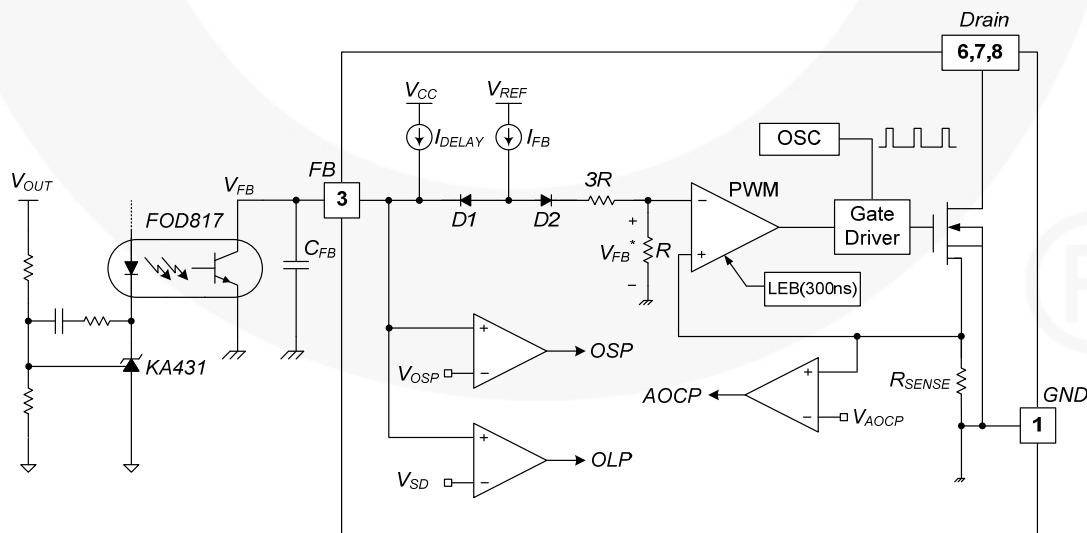

Figure 20. Pulse Width Modulation Circuit
3. Feedback Control: This device employs Current-Mode control, as shown in Figure 20. An opto-coupler (such as the FOD817) and shunt regulator (such as the KA431) are typically used to implement the feedback network. Comparing the feedback voltage with the voltage across the R_{SENSE} resistor makes it possible to control the switching duty cycle. When the reference pin voltage of the shunt regulator exceeds the internal reference voltage of 2.5V, the opto-coupler LED current increases, pulling down the feedback voltage and reducing drain current. This typically occurs when the input voltage is increased or the output load is decreased.
3.1 Pulse-by-Pulse Current Limit: Because Current-Mode control is employed, the peak current through the SenseFET is limited by the inverting input of PWM comparator (V_{FB}^*), as shown in Figure 20. Assuming that the $90\mu A$ current source flows only through the internal resistor ($3R + R = 25k\Omega$), the cathode voltage of diode D2 is about 2.8V. Since D1 is blocked when the feedback voltage (V_{FB}) exceeds 2.8V, the maximum voltage of the cathode of D2 is clamped at this voltage. Therefore, the peak value of the current through the SenseFET is limited.